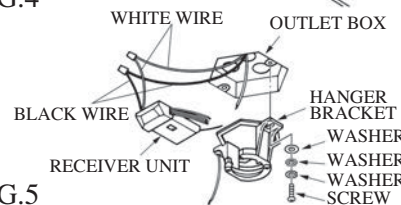

FIG.5
1. Securely attach the hanger bracket to the outlet box by washers and screws supplied. Connect white wire from ceiling to white wire from receiver with wire nut. Connect black wire from ceiling to black wire from receiver with wire nut (see Fig.5)